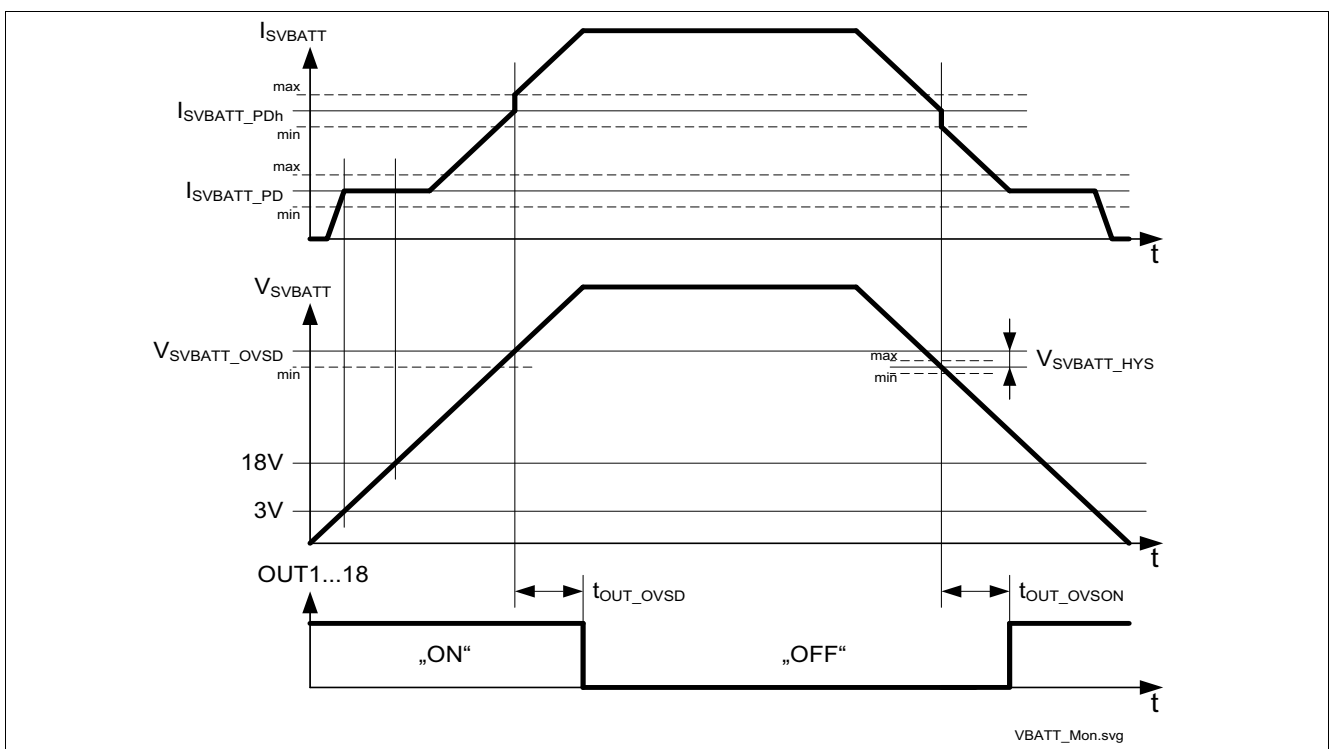

Figure 7 Battery Voltage Monitoring
2)  $V_{SVBATT} = V_{SVBATT\_OVSD}$  during voltage increase, respectively  $V_{SVBATT} = V_{SVBATT\_OVSD} - V_{SVBATT\_HYS}$  during voltage decrease. See Figure 7.